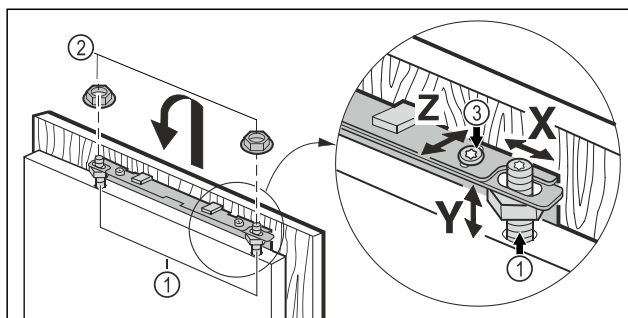

Fig. 45
- ▶ Hang the unit door on the adjustment bolts Fig. 45 (1) and screw the lock nuts Fig. 45 (2) loosely onto the adjustment bolts.
- ▶ Align the height Y and lateral inclination of the unit door: Set the adjustment bolts Fig. 45 (1) with a screwdriver.
- ▶ Tighten the lock nuts Fig. 45 (3).